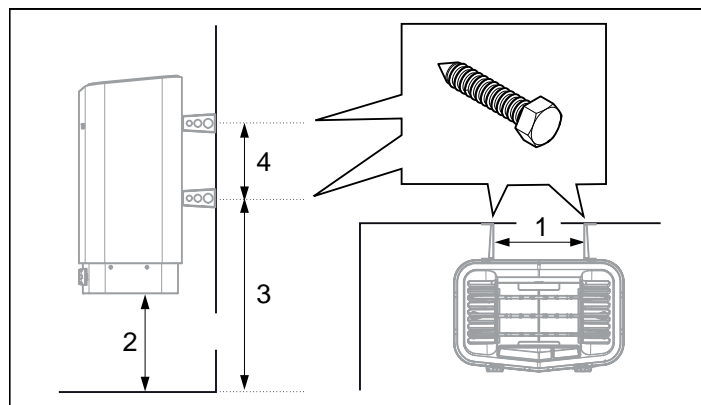

Figure 8: Dimensioning
6. Position the bracket screws according to the specified dimensioning see Figure 8, Page 7.